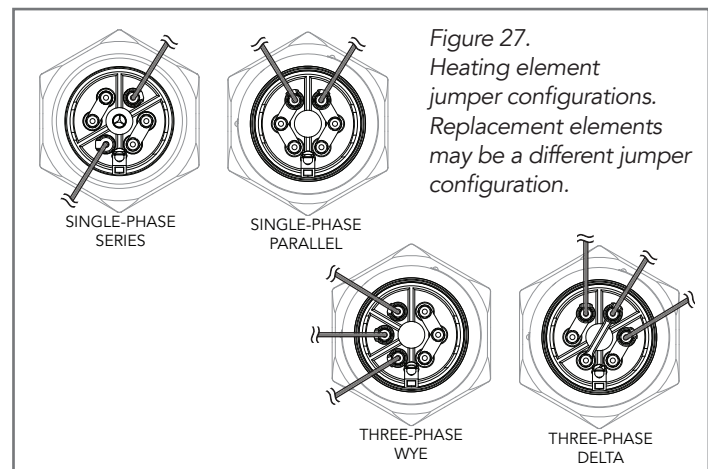

Figure 27. Heating element jumper configurations. Replacement elements may be a different jumper configuration.
3. Drain the fluid from the heating tank (D).
4. Remove the cap (A) from the heating element service entrance enclosure.
5. The wire connections inside the enclosure correspond to one of the jumper configurations shown. Note your unit's jumper configuration. See Figure 27.